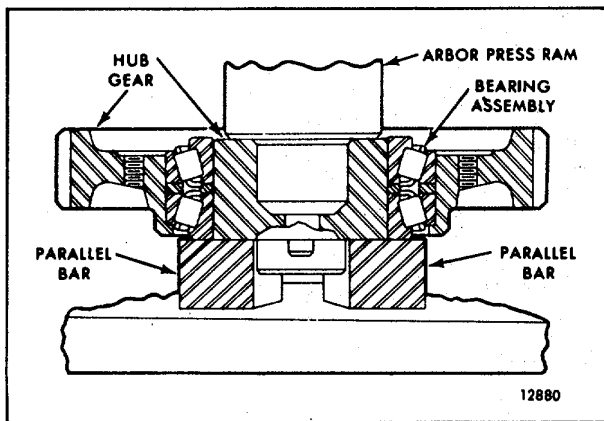

FIG. 5 - Pressing Hub into Idler Gear Bearing
2. Support one bearing cone, numbered side down, on the bed of the arbor press (Fig. 5). Then place the idler gear and bearing cup assembly over the bearing cone.